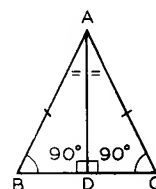

Fig. 1.71
- (1) bisects the unequal side. Thus in Fig. 1.71 $BD = CD$.
- (2) bisects the apex angle. Thus in Fig. 1.71 $\angle BAD = \angle CAD$.